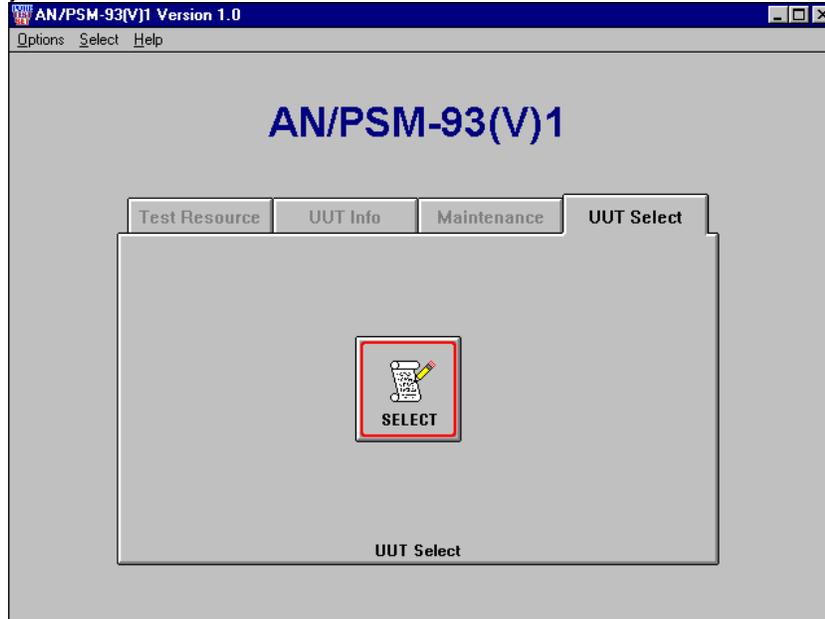

Figure 2. UUT Select Screen
2.2.2 At the UUT SELECT folder, move the cursor to the icon labeled SELECT and click on the left mouse button. (See Figure 2, UUT Select Screen, below).